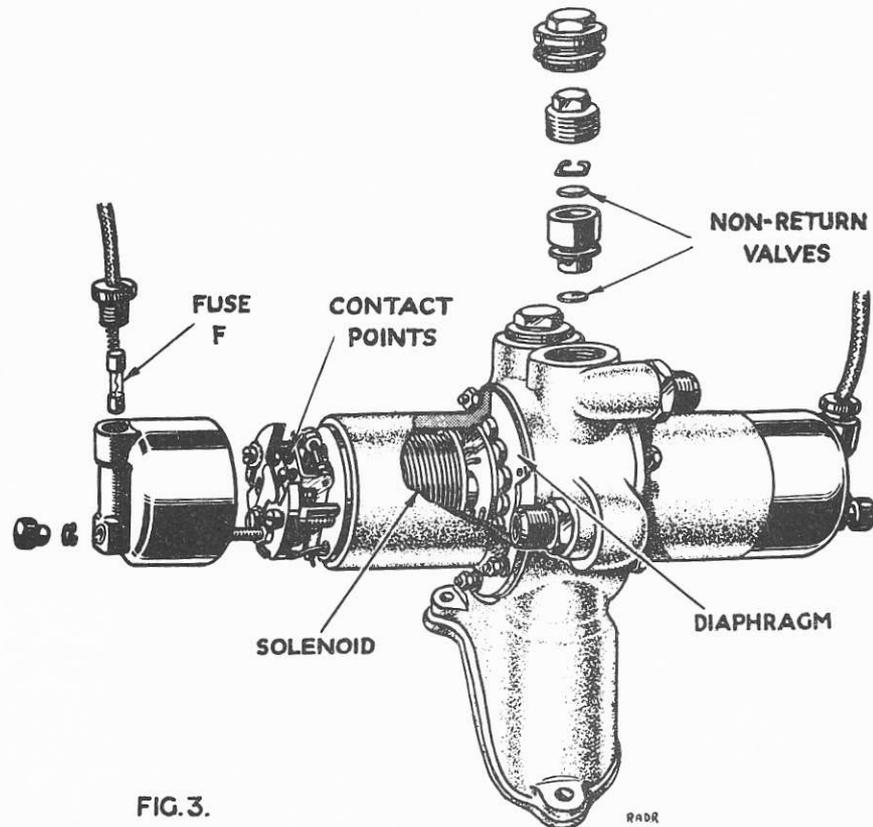

FIG.3.
- (f) Switch on ignition and the petrol pumps should start to purr. If they do not, make sure current is getting to pumps by checking with 12 volt bulb connected between the brass bush inside the pump end covers (removed) and earth. The bulb should light; if not, examine small fuse F. in each cover (Fig.3).